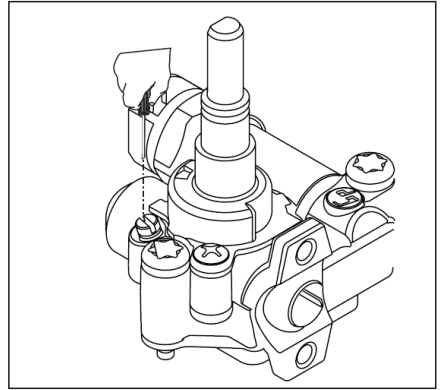

Figure 5
- h)** In the case of installing a built-in oven under the gas hob, it is recommended to improve the ventilation around the oven, to avoid excessive heating, place a grille for the air intake from the bottom of the oven and another grille on the top, top of the hob (Fig. 5) or in the front-top part of the oven (Fig. 6).
5. Using a flathead screwdriver readjust the screw next to the central axis of the valve (Figure 5).